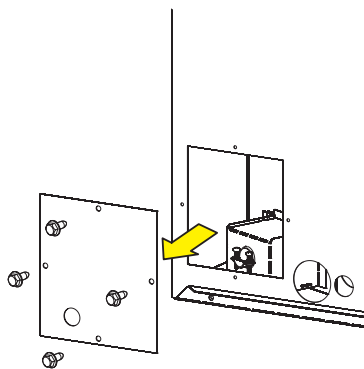

Figure 10
1. Remove the electrical access cover panel from the left end of the fireplace. See Figure 10.
6. Reinstall the electrical access panel with the screws removed in step 1. See Figure 10.